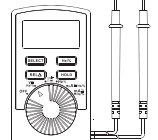

Figure 2
1. Measuring DC Voltage (See Figure 2)
2. Measuring AC Voltage (See Figure 2)